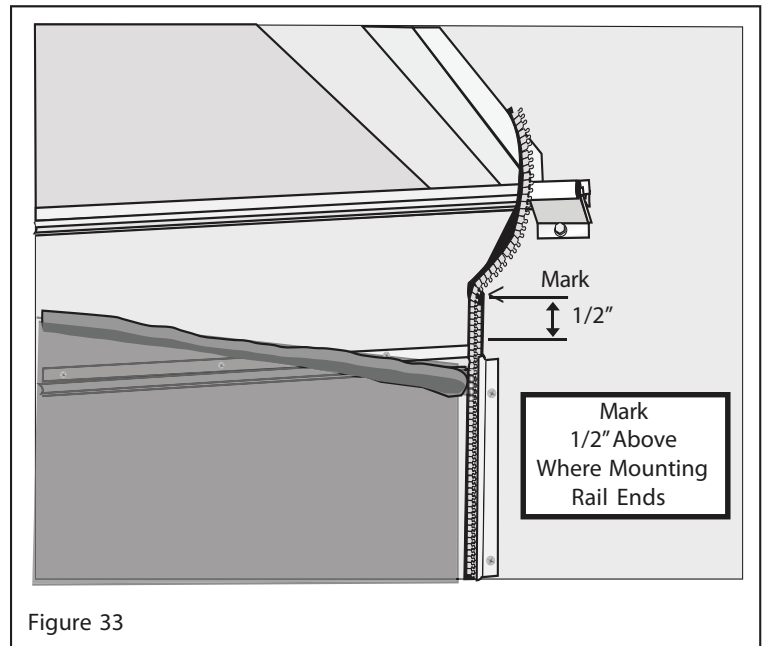

Figure 33
**STEP 49.** From outside the screen room and at the right rear corner locate the excess zipper that is extending out of the side mounting rail. Make a mark on the zipper/fabric material about 1/2" above the top of your side mounting rail. See Figure 33.